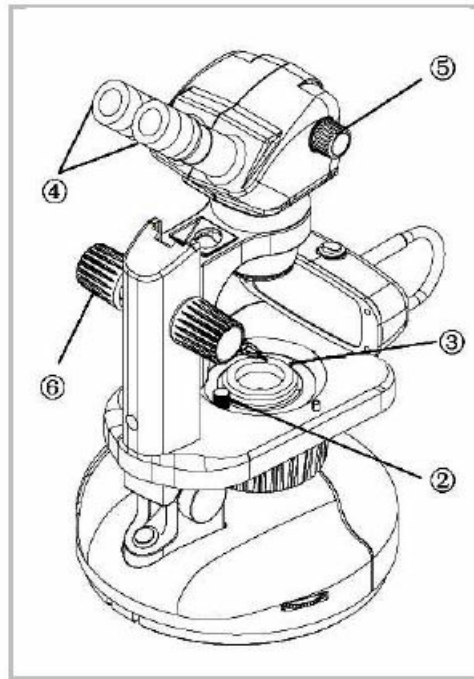

Fig. 7
- **Adjusting the Diopter Ring (Fig. 7)**